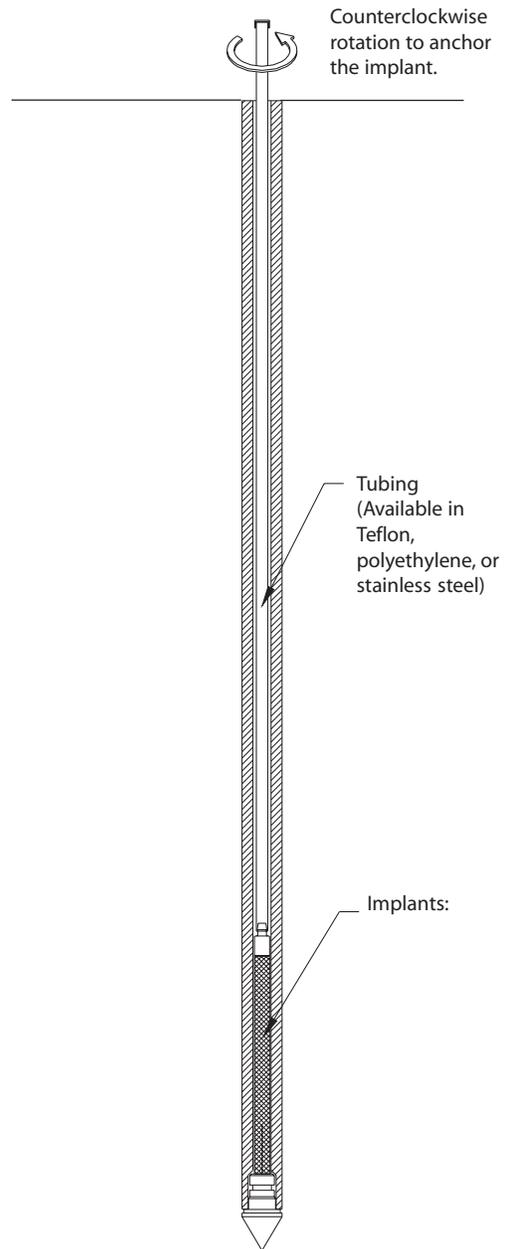

Figure 2. Once depth is achieved, the selected implant and tubing are inserted through the rods. The tubing is rotated to lock the implant into the drive point.
4. Rotate tubing counterclockwise while exerting a gentle downward force to engage the PRT threads (**Figure 2**). Pull up on the tubing lightly to test the connection. DO NOT cut excess tubing.